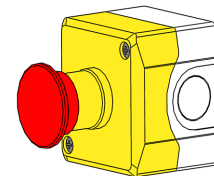

Figure 16 - Emergency Stop Switch
10. Press one of the Tray-mounted side Emergency Stops or the Funnel-mounted top Emergency Stops (Figure 16). The switch chosen should be varied each time the machine is used.